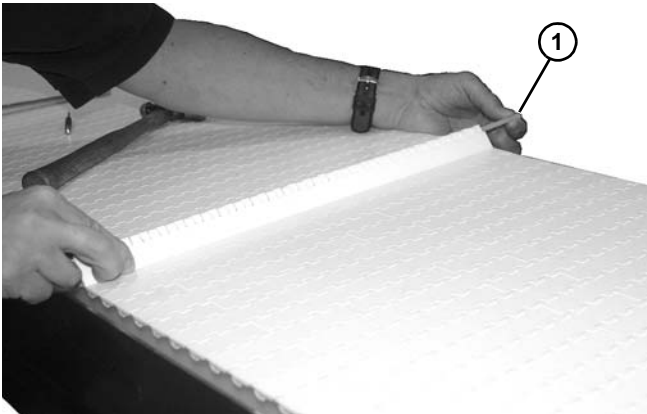

Figure 24
8. Insert the belt rod (Figure 24, item 1).